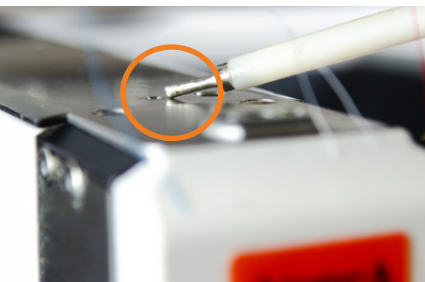

Figure 111
- Apply two to three drops of sewing machine oil to the two openings on the front and back of the sewing arm. **See Figure 111.**